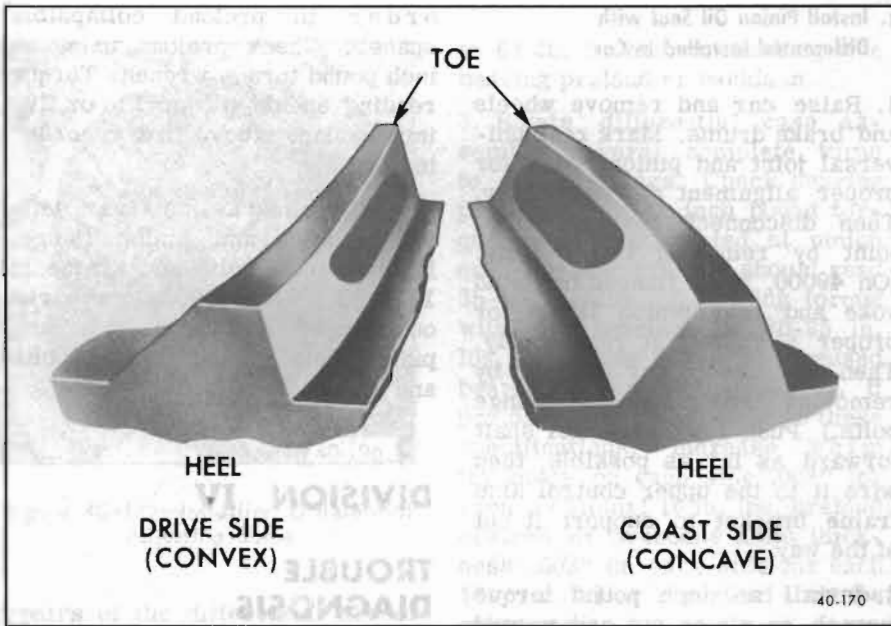

Figure 40-177—Gear Tooth Nomenclature
5. Observe pattern on ring gear teeth and compare with Figures 40-177 and 178.